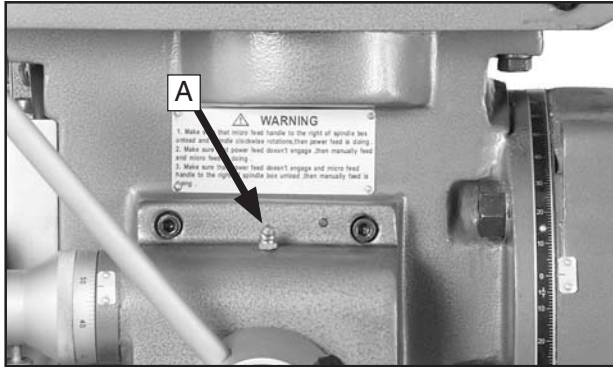

Figure 68. Downfeed gear grease fitting on right side of headstock.
2. Refer to **Figures 68–70** to identify each of the four grease fittings.
Right Side of Model G0616 (Figure 68):